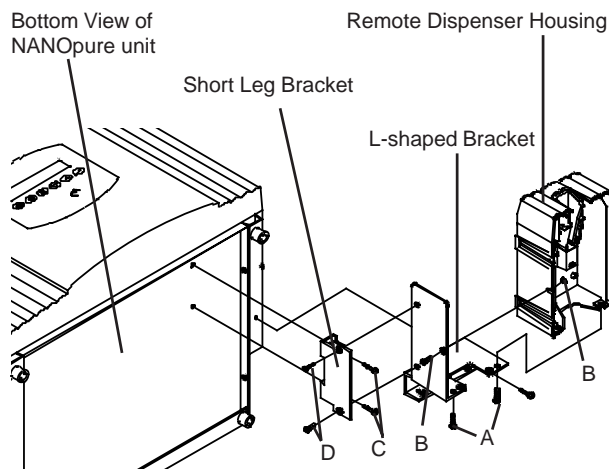

Figure 4 Remote Dispenser Housing Installation
2. Place the L-shaped bracket to the left and back sides of the remote dispenser housing. Replace the two screws (1/2" x 8/32" pan head) removed in step 1 into the back of the housing to attach the bracket (See Figure 4, A).
3. Place one flat head screw (1/2" x 8/32") into the left side bottom of the L-shaped bracket. Secure it with the nut supplied. (See Figure 4, B).
4. Attach the remaining bracket with the two pan head screws (1/2" x 8/32") to the bottom right side of the Infinity unit with the short legs pointing to the right. (See Figure 4, C).
5. Locate the remote dispenser housing/L-shaped bracket assembled in step 2 and the two remaining flat head screws. Line up the two holes in the bracket mounted on the bottom of the Infinity unit with the two holes in the remote dispenser housing/L-shaped bracket. Secure with the two flat head screws. (See Figure 4, D).